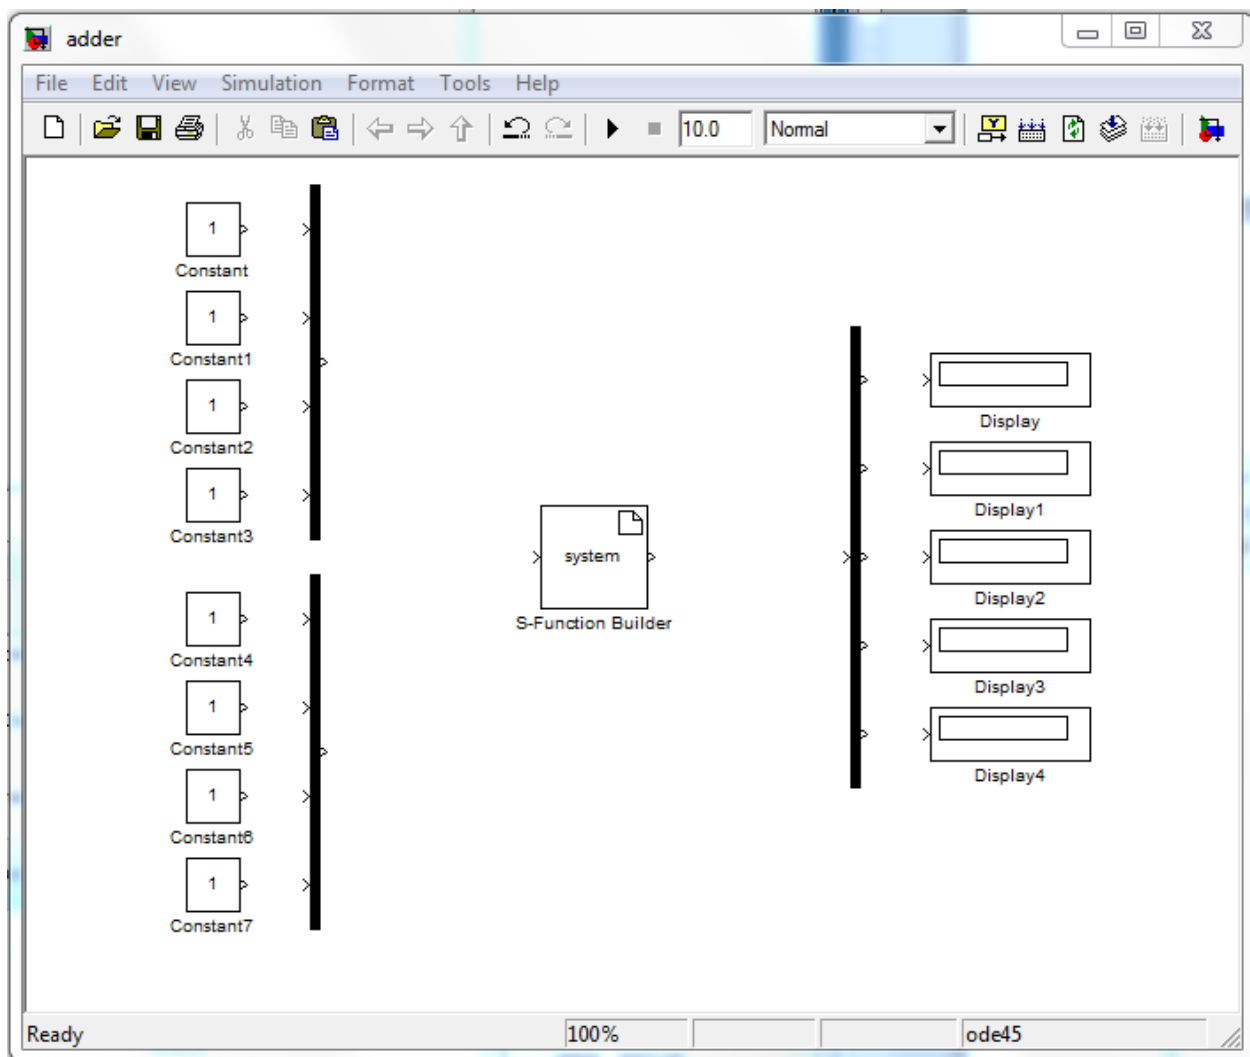

Figure 2
3. Create a new Simulink model in Matlab 2018a. Insert 8 Constant Blocks, 2 Muxs, 1 Demux, and 5 display blocks. Insert the S-Function Builder block located under “User-Defined Functions”. Your Simulink model should look something like Figure 2.